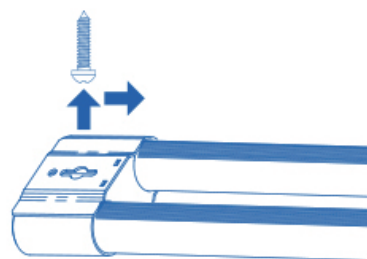

Figure 2
- 2 Lift fixture up to screws and slide to one side to secure into place. Fixture should be firmly fixed against screws. (Figure 2)